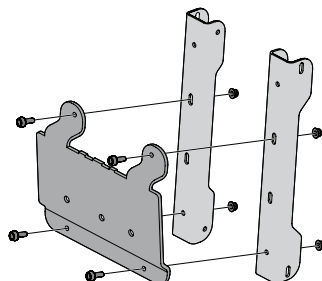

Figure 3
- Place the two strut brackets (789-04278) facedown on a stable work surface, as shown in Figure 3.
- Align mounting plate (689-02559) to strut brackets with flanges curving inward and solid flange lined up with smaller holes along the bottom of strut brackets. See Figure 3.
- Secure mounting plate and strut brackets with four hex head screws (710-1238) and four lock nuts (712-04063) from hardware pack 689-02619. See Figure 3.